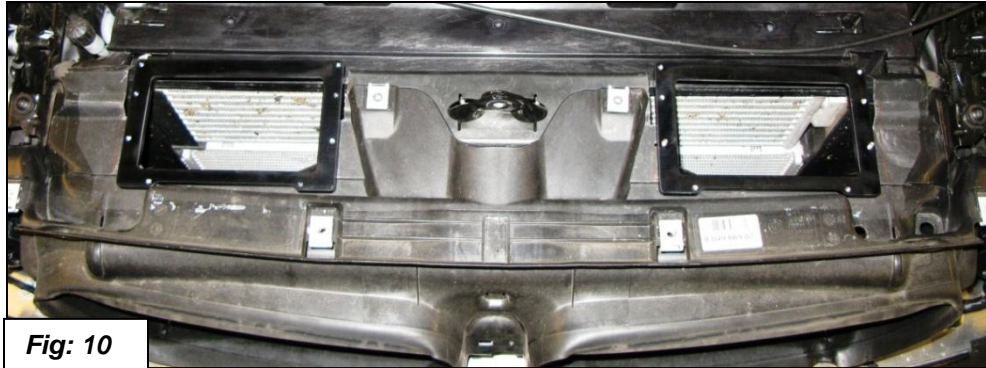

Fig: 10
9. The Air Filter Frames mount on top of the shroud in front of the radiator. You will cut two holes and mount the frames to the shroud. The Dinan carbon fiber snorkels screw to these frames. See figure 10.